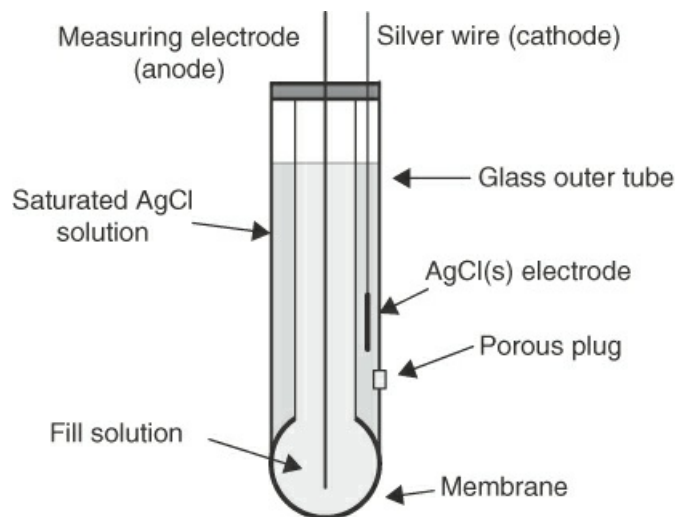

Figure 2.14 Cross section of an electrode
The biotechnology industry uses a number of special-purpose analyzers, including dissolved oxygen (DO) sensors, pH sensors, and turbidity meters. Many bioreactors use oxygen as a reactant, and DO sensors, which are electrodes, are used to ensure that the oxygen concentration is in the desired range. pH has a significant effect on most bioprocesses, and pH sensors, which are also electrodes, are used to control or monitor the system pH. A schematic of a general electrode is shown in Figure 2.14. The glass membrane on the lower end of the electrode allows certain ions from the bioreactor to enter into the fill solution. The electrode reading is the voltage difference between the measuring electrode in the fill solution and the AgCl reference electrode. Turbidity is the measure of the amount of light scattering caused by suspended solids in a sample. The concentration of cells in a sample from a fermentator correlates strongly with cell concentration if the reaction mixture is clear except for cells.